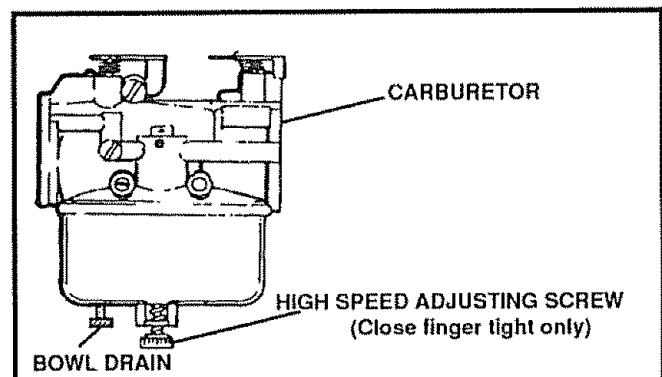

FIG. 7
- Close high speed adjusting screw by hand. Do not over tighten (See Fig. 7, page 13)